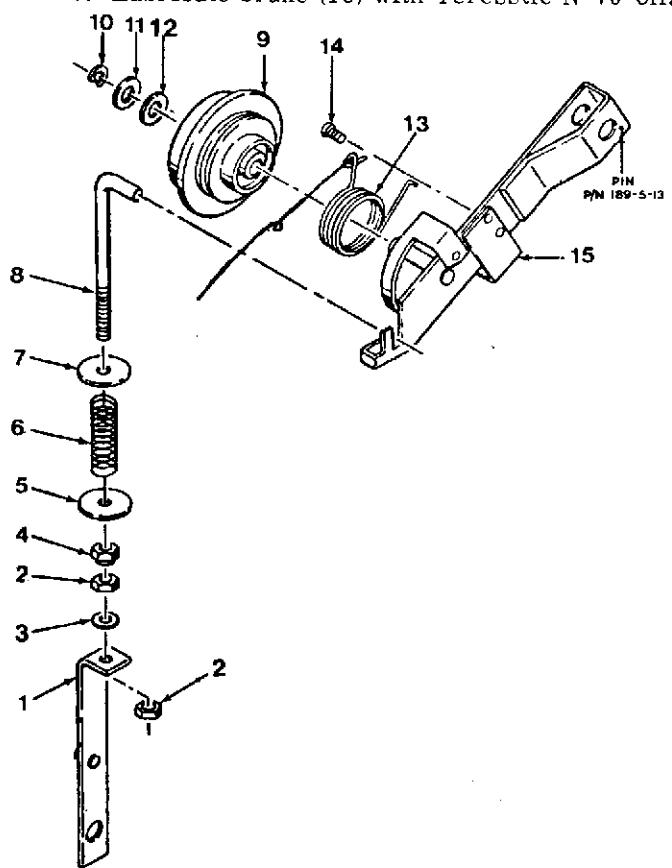

Figure 3-24. ARM COMPLETE, Take-Up Clutch
11. Arm Complete (Fig.3-24)
- a. Secure end of brake (13) under head of screw (14).
- b. Lubricate brake (13) with Teresstic N-75 oil.